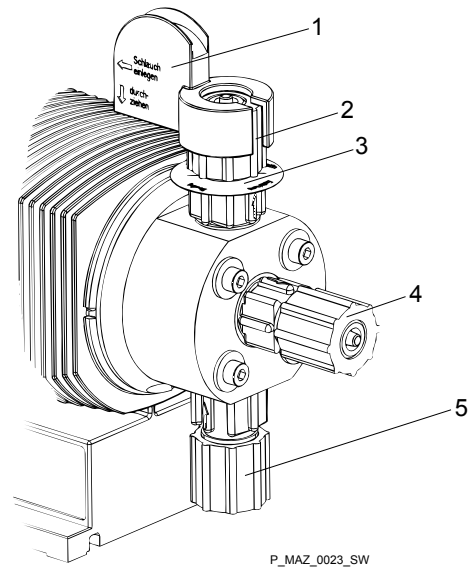

Fig. 8: SEK liquid end
- *The return line is connected to the vertical valve on the upper side of the liquid end. It is labelled with a red sleeve from factory - see Fig. 8.*